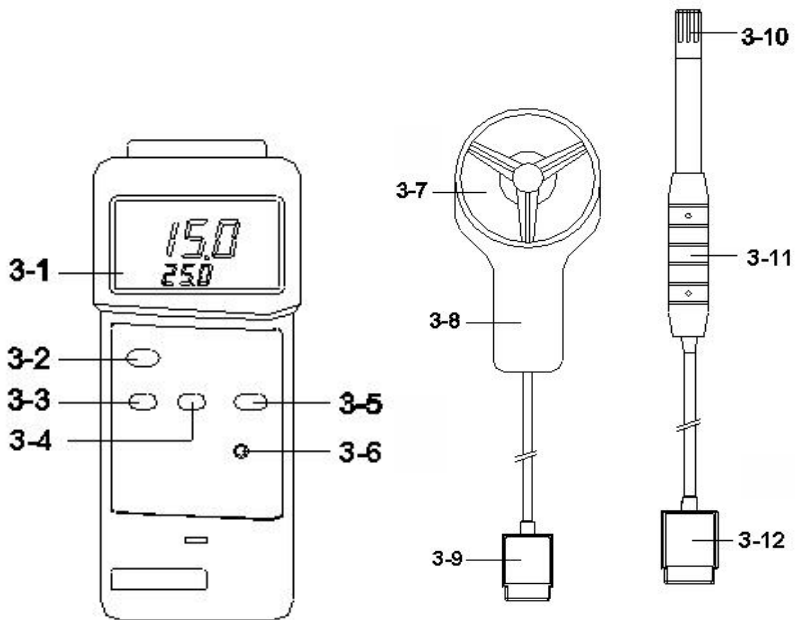
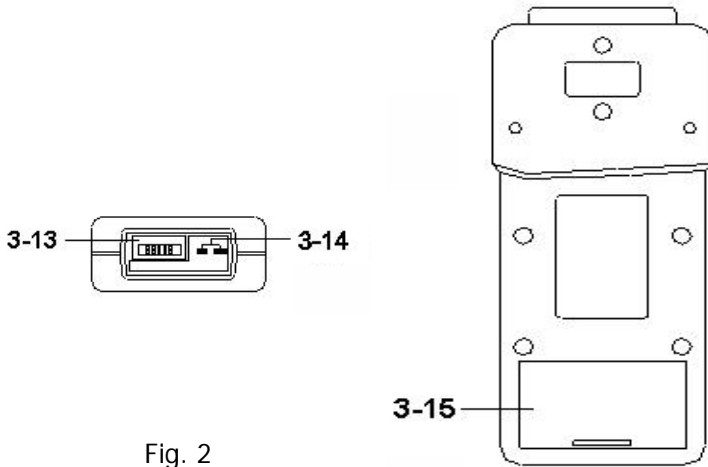

Fig. 1
Fig. 2
- 1) Install the " Vane Probe Plug " (3-9, Fig. 1) into the " Anemometer Socket " (3-13, Fig. 2).
- 2) Power on the meter by pressing the " Power Button " (3-2 , Fig. 1) once.
- 3) Hold the " Vane Probe Handle " (3-9, fig. 1) by hand and let the " Vane Probe Head " (3-8, Fig. 1) face against the measuring air flow source, then the " Display " (3-1, Fig. 1) will show air velocity and the air temperature value together.
- 1) Install the " Humidity Probe Plug " (3-12, Fig. 1) into the " Humidity Socket " (3-13, Fig. 2).
- 3) The display will show the humidity (%RH) and temperature value that sensing from " Humidity Probe Head " (3-10, Fig. 1) directly.
- 1) Connect the plug of the Temp. probe (optional, such as type K probe, TP-01, TP-02A, TP-03, TP-04) into the " Thermometer socket " (3-14, Fig. 2).
Connect the plug of the Temp. probe (optional, such as type K probe, TP-01, TP-02A, TP-03, TP-04) into the " Thermometer socket " (3-14, Fig. 2).
- 4) Press the " Function Button " (3-3, Fig. 1) continuously at least 2 seconds, the function will change from " Air velocity " to " Thermometer " in cycling.
- 4) Press the " Function Button " (3-3, Fig. 1) continuously at least 2 seconds, the function will change from " Humidity " to " Thermometer " in cycling.
During the measurement, pushing the " Data Hold Button " (3-3, Fig. 1) will hold the measured value & the LCD will indicate " HOLD " symbol.
- * The data record function records the maximum and minimum readings. Press the " REC. Button " (3-4, Fig. 1) once to start the Data Record function and there will be a " REC " symbol on the display.
- a) Press the " REC. Button " (3-4, Fig. 1) once, the " REC MAX " symbol along with the maximum value will appear on the display.
Press the " REC button " (3-4, Fig. 1) again, the " REC MIN " symbol along with the minimum value will appear on the display.
If intend to delete the maximum (minimum) value, press the " Hold button " (3-3, Fig. 1) once, the display will show the " REC " symbol only and execute the memory function continuously.
- a. Hold the " Setting Button " (3-5, Fig. 1) at least five seconds will enter the Advanced Setting Procedures.
- b. One by one to press the " Setting Button " (3-5, Fig. 1) once a while to select the main setting function in sequence and show the text the lower display as :
- a. Use " Function button " (3-3, Fig. 1) to select the desiring measuring unit.
- b. After select the desiring unit, press the " Enter button " (3-4, Fig. 1) to save the data with default.
- a. Use " Function button " (3-3, Fig. 1) to select " K " or " J " .
- b. After select the desiring value (K or J), press the " Enter button " (3-4, Fig. 1) to save the data with default.
- a. Use " Function button " (3-3, Fig. 1) to select " °C " or " °F " .
- b. After select the desiring value (°C or °F), press the " Enter button " (3-4, Fig. 1) to save the data with default.